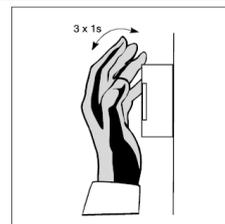

Figure 21
1. To activate the teach function, fully cover the automatic switch 'Universal' at least three times (approx. 1 s) within 9 s (Fig. 21).